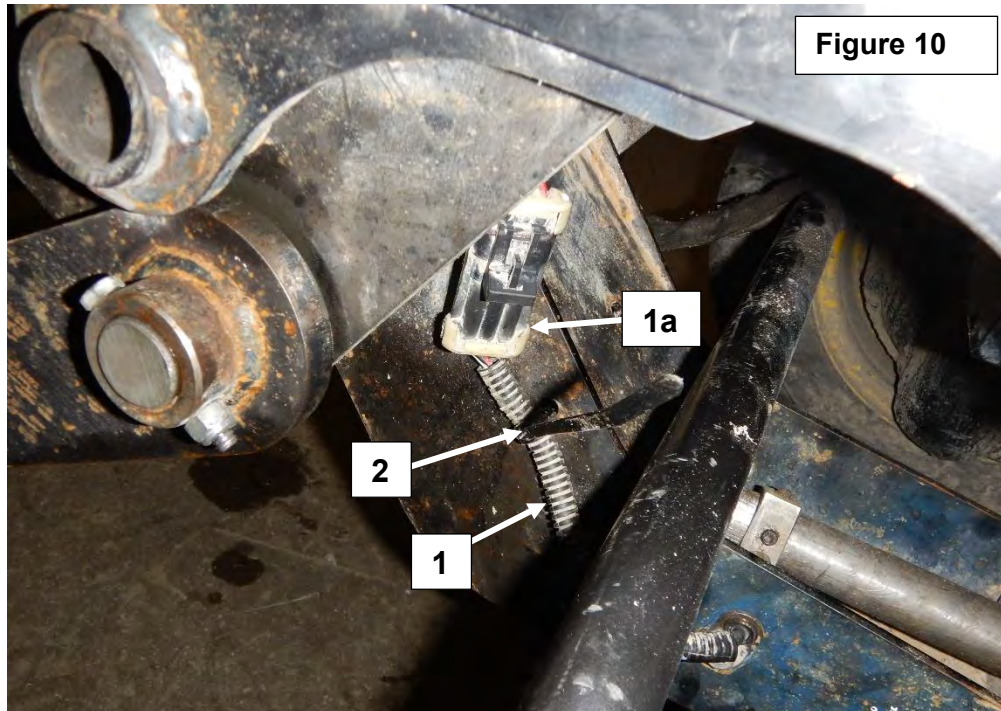

Figure 10
1. Gather all the items listed in the table in figure 10.
2. **Figure 10:** Secure the rotation sensor harness (not included) (item 1) at the location of the subframe shown in the figure using a 4.8mm x 8" long nylon tie wrap (item 2).